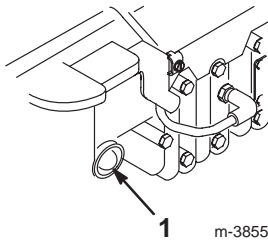

Figure 9
2. Push in the primer three times, waiting one second between each push (Fig. 9).